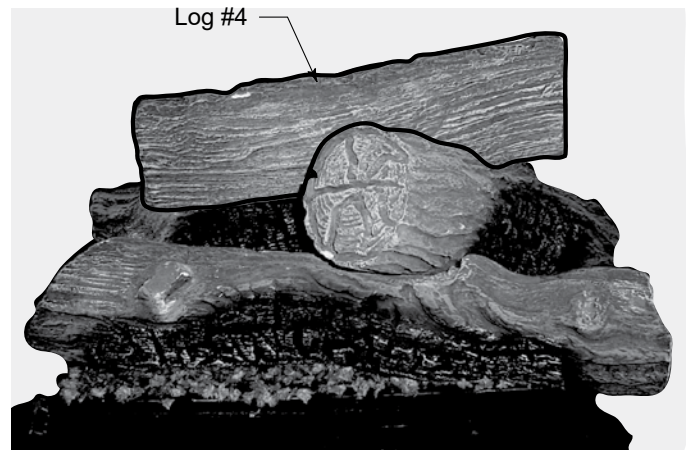

Figure 6.7 - Log #4 Placement
5. Place Log #4 by matching the rectangular protrusion on the bottom of this log over the rectangular notch on log #3. Swing the log slightly to the front and set the log over the notch located on the upper surface of log #3. Figure 6.7.